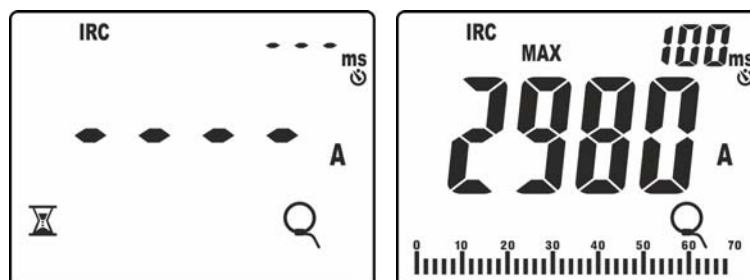

Fig. 43: Recognition of inrush current event
8. Press key **GO/STOP** to activate the function. The instrument waits for the event to be recognized (measured value higher than the fixed trigger threshold equal to **1%FS clamp: e.g. 30A with FS = 3000A**) and shows symbol on the display (see Fig. 43 – left side)
9. Upon recognition of the event, **measurement stops automatically** and the instrument shows, in its main display, the **Max RMS** value calculated according to the evaluation time of **100ms** (default) indicated on the secondary display (see Fig. 43 – right side)